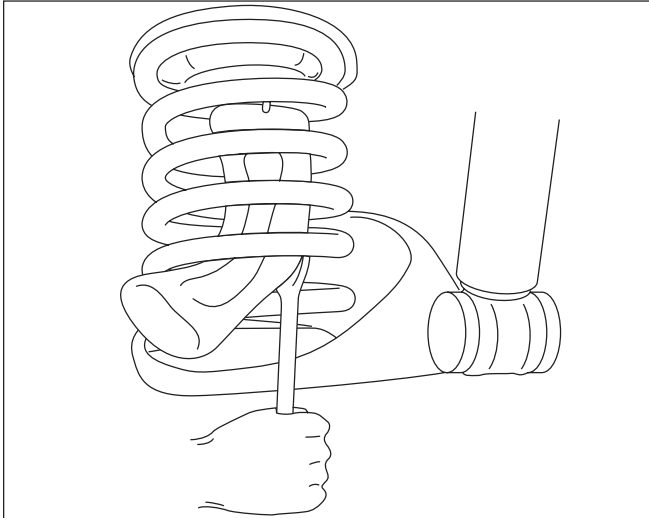

Figure 1
2. Air cylinders are shipped in the "as molded" shape. For ease of installation, remove the plastic cap from the barbed stem on the end of the cylinder. Push on the air cylinder to evacuate as much air as possible. The air bag may be rolled up toward the valve stem. Replace the cap on the stem to maintain the flattened shape (Figure 1).
3. Insert the flattened air cylinder into the coil spring through the lowest opening with the stem at the top (Figure 1).
4. Push the cylinder up within the coil by hand or with a blunt instrument such as a spoon-type tire iron (Figure 1).